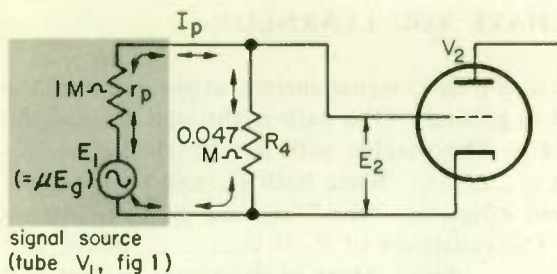

Fig. 3 Basic equivalent signal circuit for Fig. 1, showing the development of signal E_2 for feeding V_2 .
sidered large enough that the signal passes through them with only slight loss, and therefore they are replaced by conductors in the equivalent circuit of Fig. 3. Also, R_3 is omitted in Fig. 3 because it takes only a small part of the signal current.
Figure 3 is simple enough that it is fairly easy to see what factors affect the gain of the stage, which is the ratio of E_2 and E_g . If the plate resistance r_p were zero, the E_2 would be equal to E_1 and the gain would be equal to the amplification factor μ of the tube. That would be the greatest gain that it is theoretically possible to obtain. However, all practical tubes have an r_p greater than zero, and the voltage drop across it caused by I_p flowing through it reduces E_2 to a lower value than E_1 and thus reduces the gain of the stage.
SIGNAL VOLTAGE GAIN FROM A PENTODE . . . The voltage gain of any amplifier is equal to $\text{gain} = \frac{E_{\text{out}}}{E_{\text{in}}}$. Therefore, in Fig. 3, the gain of
Finding the approximate value of I_p in Fig. 3 is easier than you might suppose if you know the value of g_m . The transconductance g_m is merely a constant that can be multiplied by the input signal E_g to give you I_p . That is, $I_p = g_m E_g$. In a pentode, this formula is true regardless of the size of the plate load resistance (R_4 in Fig. 3) because the plate resistance r_p of a pentode is very high as compared with the load resistance. Since the plate resistance of a pentode is very high, *pentode tubes can be considered as being approximate constant-current sources*. That is, I_p will have about the same value for any practical value plate load resistance.
As an example, consider Fig. 3. Since R_4 , the load in Fig. 3, is much smaller than the resistance of the signal source, the signal source can be considered as being a constant-current source. The plate resistance r_p of the 6AU6 tube in Fig. 3 is many times greater than the resistance of the load, which is only 0.047 M Ω . Because of the limitation on the maximum size of the load resistance, it is usual for the load on a pentode tube to be only a small fraction of the plate resistance.
Multiplying I_p by R_4 , Fig. 3, gives us E_2 . Since I_p equals $E_g g_m$, we can substitute $E_g g_m$ for I_p . Thus $E_2 = g_m E_g R_4$. Now to find the voltage gain of the stage,
- Refer to Fig. 3. Assume that the pentode tube has a transconductance g_m of 5200 μ mhos. If a signal voltage of 0.5 V is applied to the grid of the
4. Use formula 1 to find the gain of the stage in Fig. 3. Compare your answer with the answer of Problem 3(c).
... The voltage gain actually obtained from a practical RC-coupled untuned amplifier will always be less than the value given by formula 1 for a pentode and by formula 2 for a triode. That is because of simplifications made in drawing the basic equivalent circuits of Figs. 3 and 4. For one thing, the signal current taken by R_5 in Fig. 1(b) was not considered. Because of this current, the current through R_4 is somewhat less than I_p , and therefore the signal voltage drop across R_4 will be less than $I_p R_4$, which is the value we used for E_2 . Also, formula 1 assumes the tube to be a true constant-current source. If R_4 were larger than the value shown, perhaps as much as a quarter or half of r_p , then I_p would be substantially less than $g_m E_g$ and the gain would therefore be less than given by formula 1.